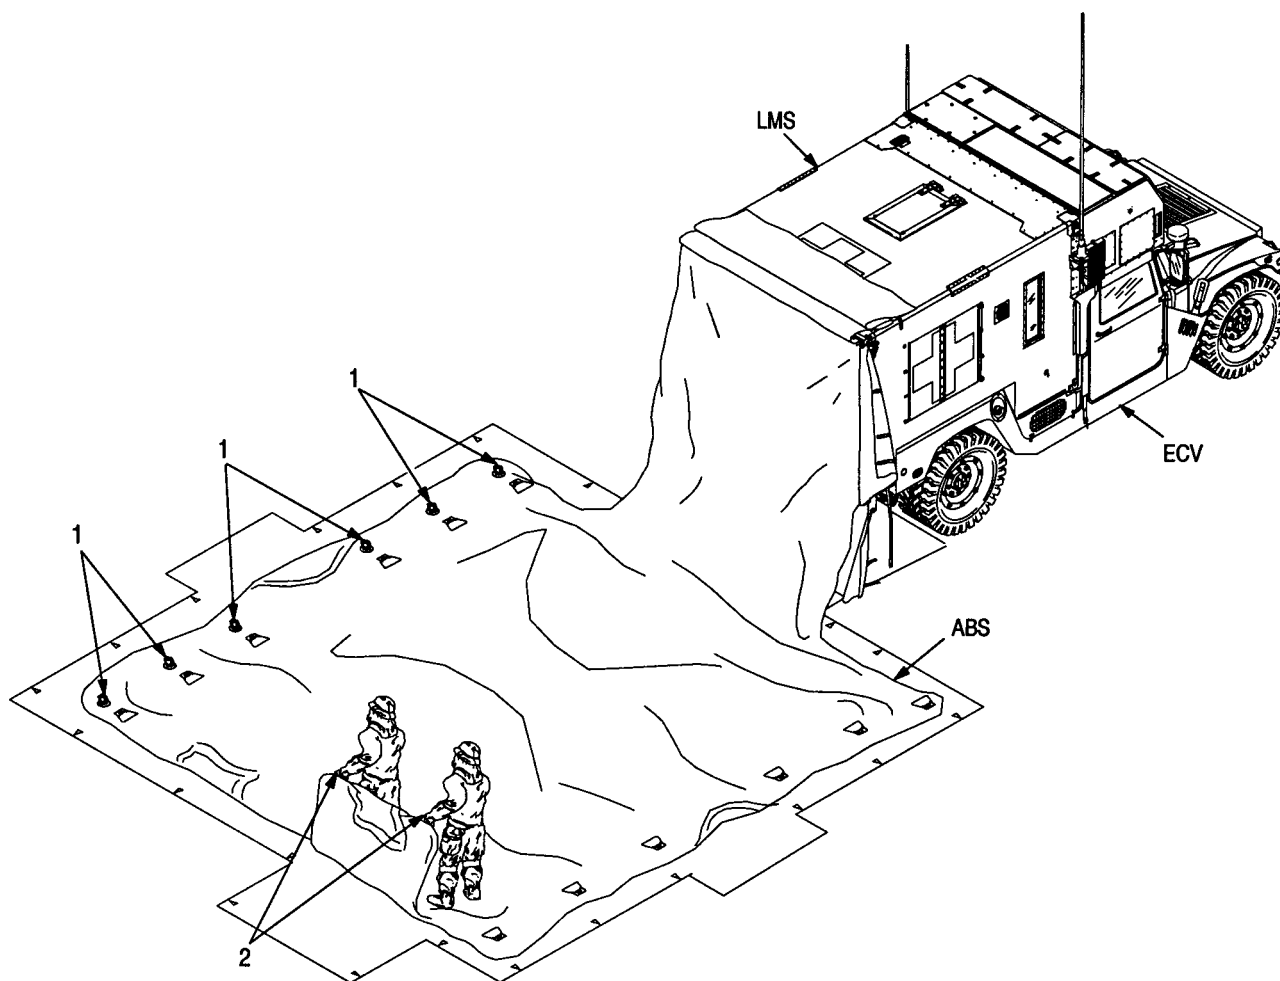

Figure 2-53. Deflating the ABS
- (7) Verify that LMS crew has entered LMS. Starting with dump cap (1, figure 2-53) closest to ECV, unlatch six dump caps (1) along driver side of ABS and one on ambulatory door area to deflate the air beams.